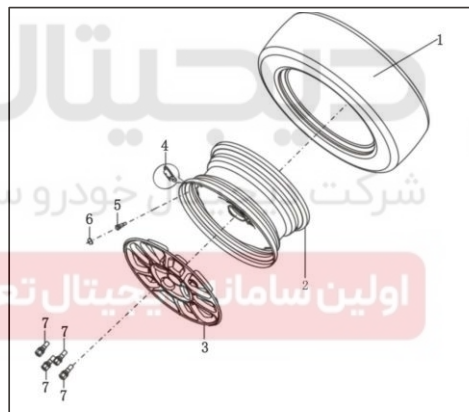

Figure 4-4 Steel Wheel Hub Wheel Assembly
1. The wheel rim is steel or aluminum drop center rim (as shown in Figure 4-4), with simple structure, light mass and great stiffness.